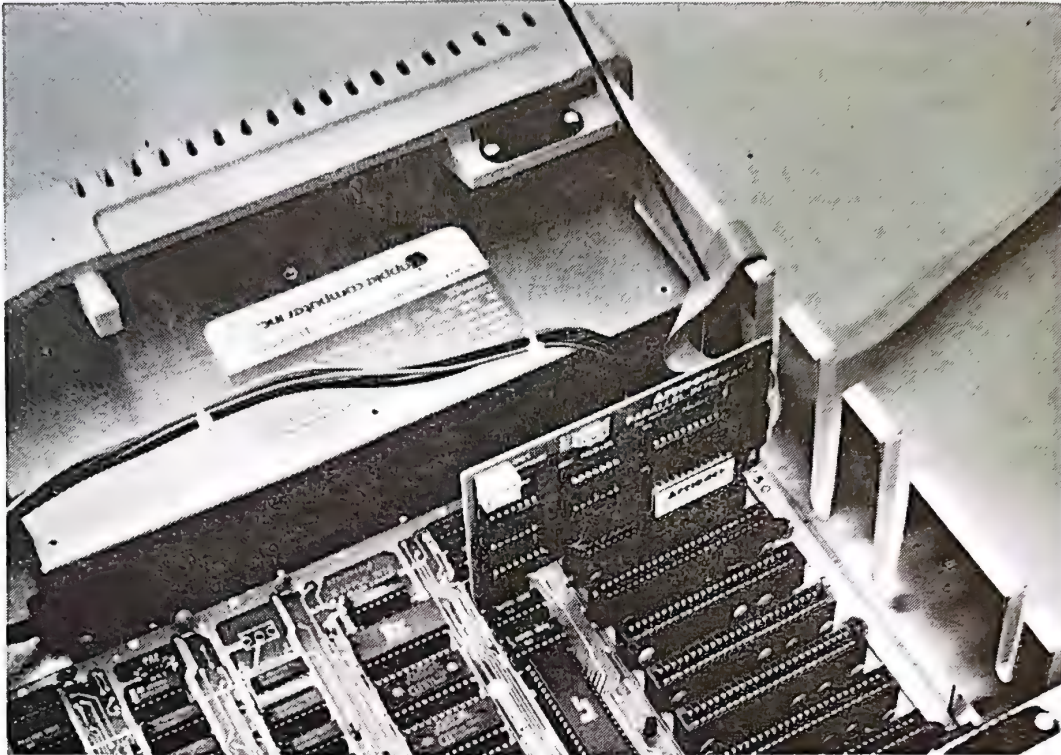

Figure 3
4. Drape the cable over the back of the case, with the lid off. See Figure 3 for details. Give the cable enough slack so that it will not pull on the installed circuit card once the lid is installed.